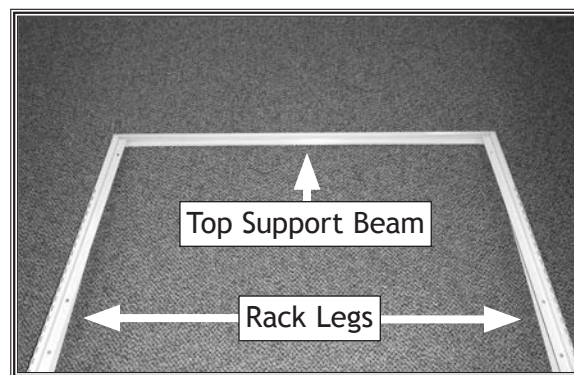

Figure 12. Rack legs attached to top support beam.
3. Repeat **Steps 1-2** to attach the left leg to the top support beam. The frame is now assembled (see **Figure 12**).